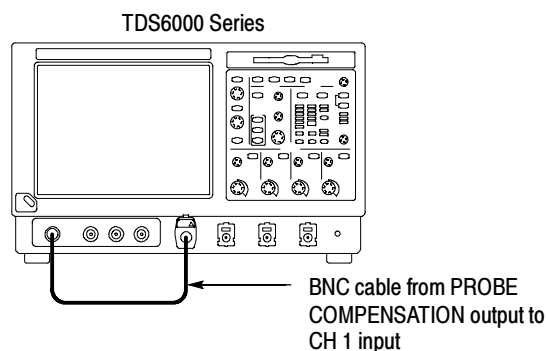

Figure 4-6: Setup for trigger test
2. *Hook up the signal source:* Connect the BNC cable from the probe compensation output to the CH 1 input through a TCA-BNC adapter as shown in Figure 4-6.